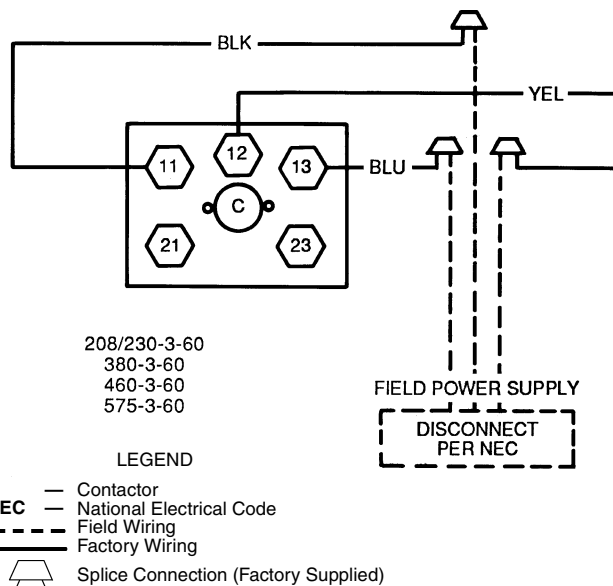

Fig. 5 — Power Wiring Connections
2. Install power lines to terminal connections as shown in Fig. 5.